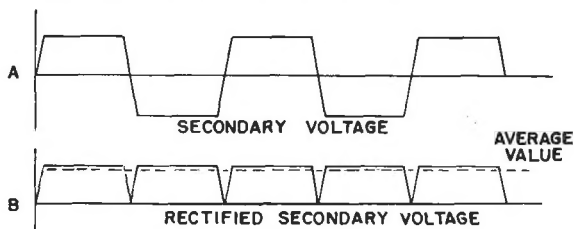

Figure 2
This action produces the effect of square-wave a-c excitation of the primary circuit—which of course is carried over to the secondary. See Figure 2 (A). Capacitor C in Figure 1 absorbs the inductive kick which occurs when the current flow is reversed. (If not suppressed, this kick would put “spikes” on the edges of the square wave, produce high surge currents through the rectifiers and cause sparking at the vibrator contacts.)